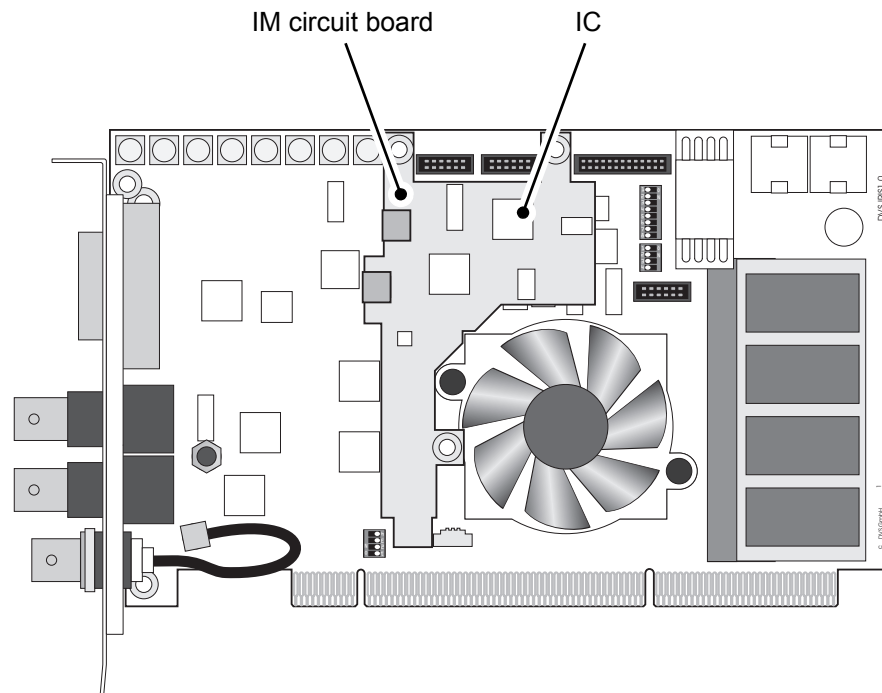

Figure 4-4: IM circuit board installed on PCI video board
- Afterwards take the thermal conductive pad and place it on the IC indicated in figure 4-4 on page 4-9 so that the electronic component is completely covered by the pad.